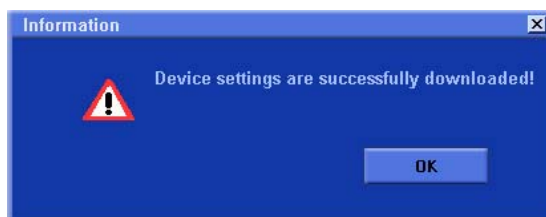

Figure 5.7 Confirmation message
8. Follow the firmware upgrade procedure *Section Figure 5.7 Confirmation message, Page 30*. (DELETED STEPS 9 and 10)